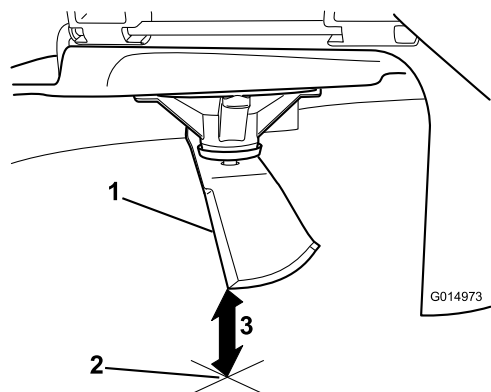

**Figure 55**
3. Measure from the tip of the blade to the flat surface (Figure 55).